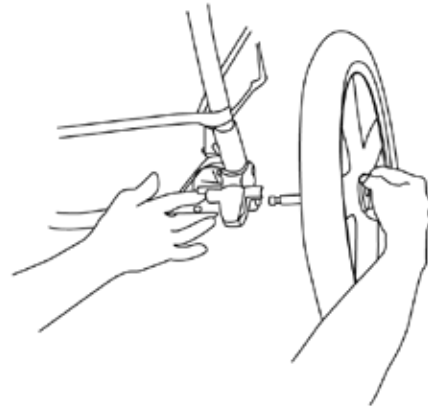
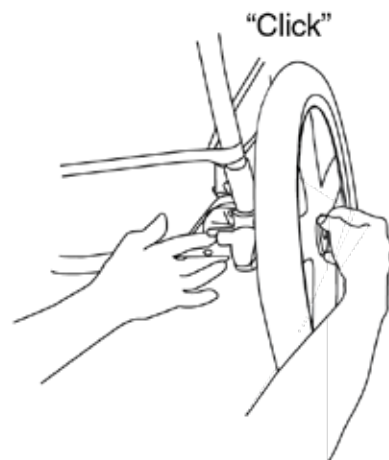

Fig. 2
Fig. 2A
6. To attach the rear wheels, lay stroller on its side. Align back wheel axle to the stroller's rear wheel axle housing (Fig. 2). Push the back wheel axle inward until you hear a "click" (Fig. 2A). Once in a fully locked position, check to make sure back wheel is in a fully locked position by pulling outward. Repeat steps for other side back wheel. **NEVER** use stroller if any wheels are not in a fully locked position. Please contact our customer service department immediately at 1-800-377-3777 for assistance.